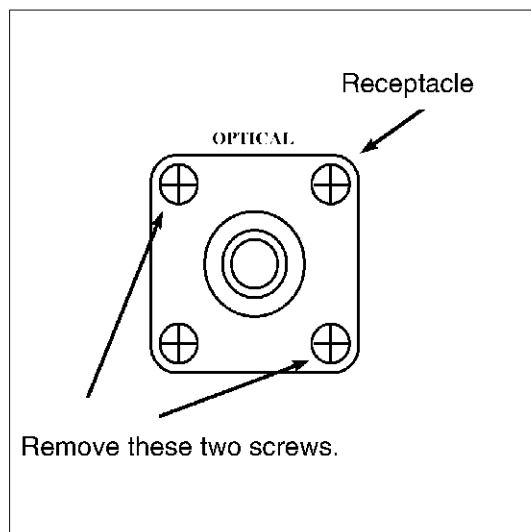

Figure 1-3 Connector Cleaning (1)
- (1) Out of the four screws fixing the optical fiber connector receptacle on the front panel, remove two screws: the upper left and lower right ones. (See Figure 1-3.)